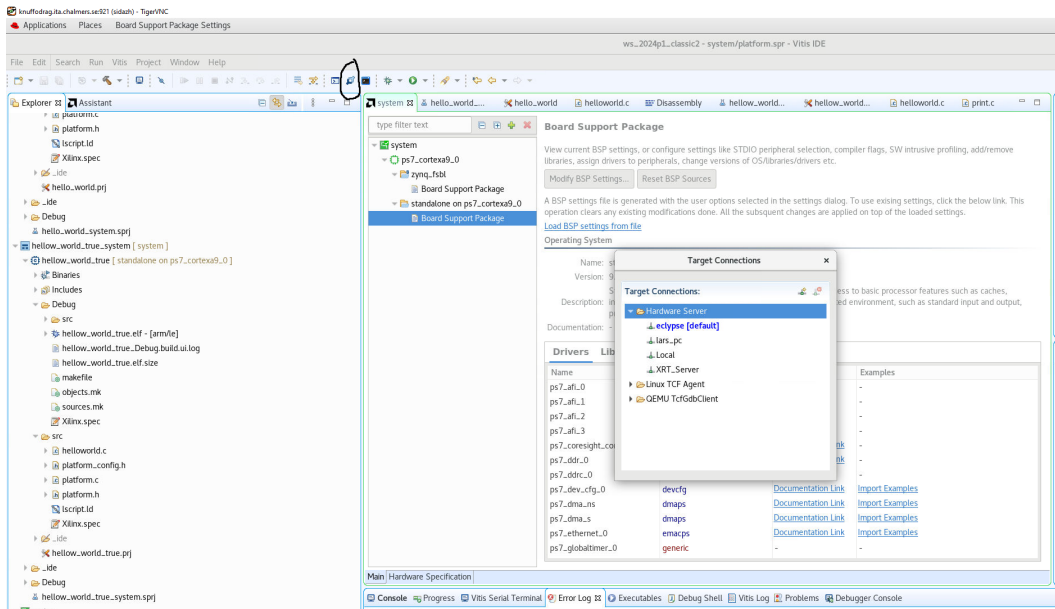

Figure 7: Target connection setup in Vitis
3. Build the project. Set up a target connection for the hardware server running on the local machine and set it as the default. See Figure 7.